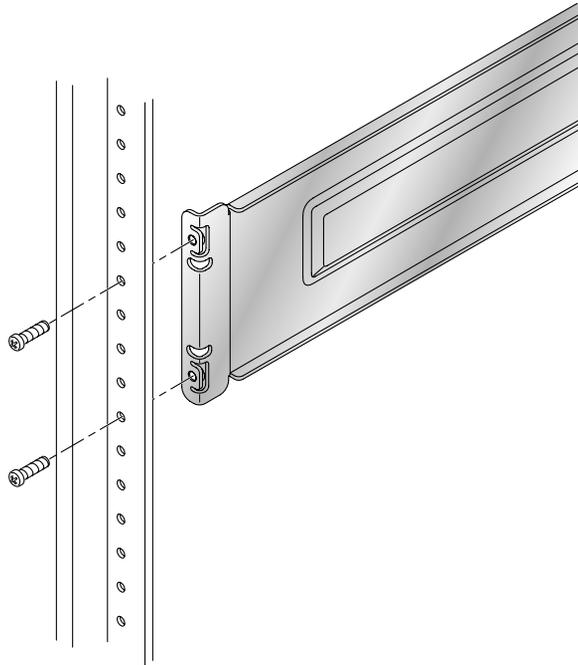

FIGURE 7 Attach the Front Bracket of the Side Rail Behind the Mounting Rail.
6. From the front of the Sun Rack 900, align the front bracket of the left side rail *behind* the vertical mounting rail (FIGURE 7).